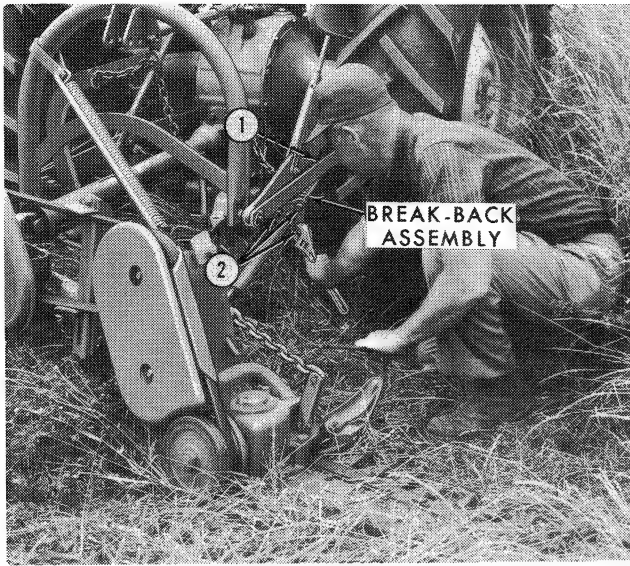

Figure 13
The spring-operated breakback, Figure 13, protects the cutter bar against damage when an obstruction is hit. To provide maximum protection to the cutter bar, the breakback allows the cutter bar to swing back approximately  $45^\circ$  and at the same time it auto-
Gradually and equally tighten the three adjusting nuts (2), Figure 13, evenly until the spring is compressed to 10-7/16" (factory adjustment). This adjustment should be satisfactory for all conditions. Tension may be increased slightly but should not be reduced below the 10-7/16" adjustment.
**NOTE:** The adjusting nuts (2) are easier to reach when the cutter bar is pulled back. This may be done by releasing the latch (1) and pulling the cutter bar rearward.